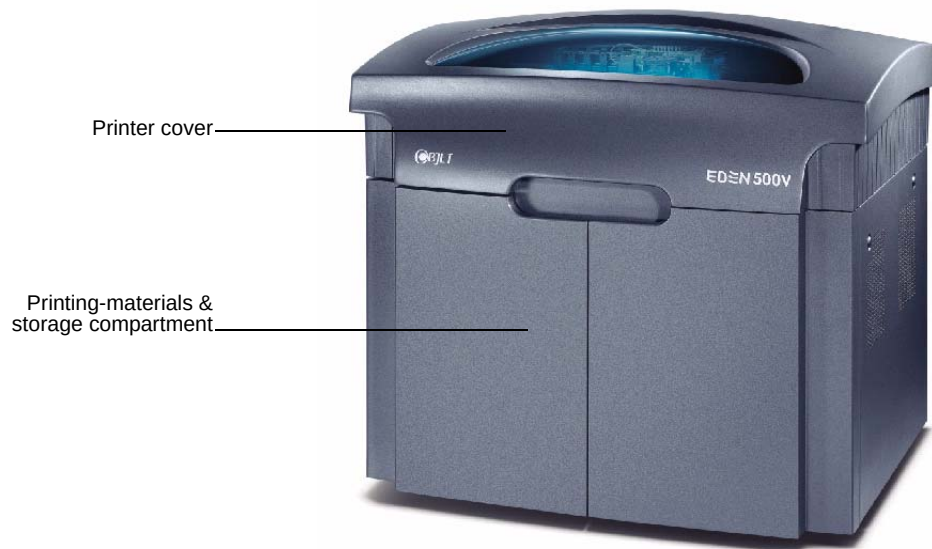

Figure 6-1: The Eden500V 3D Printer
1. On the front of the printer (see figure 6-1), pull open the doors of the storage compartment.